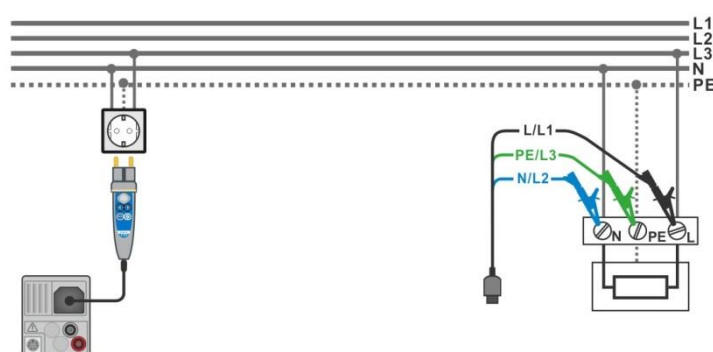

Figure 7.33: Connection of Plug commander and 3-wire test lead
- Connect test leads or Plug commander to the object under test, see **Figure 7.33**.